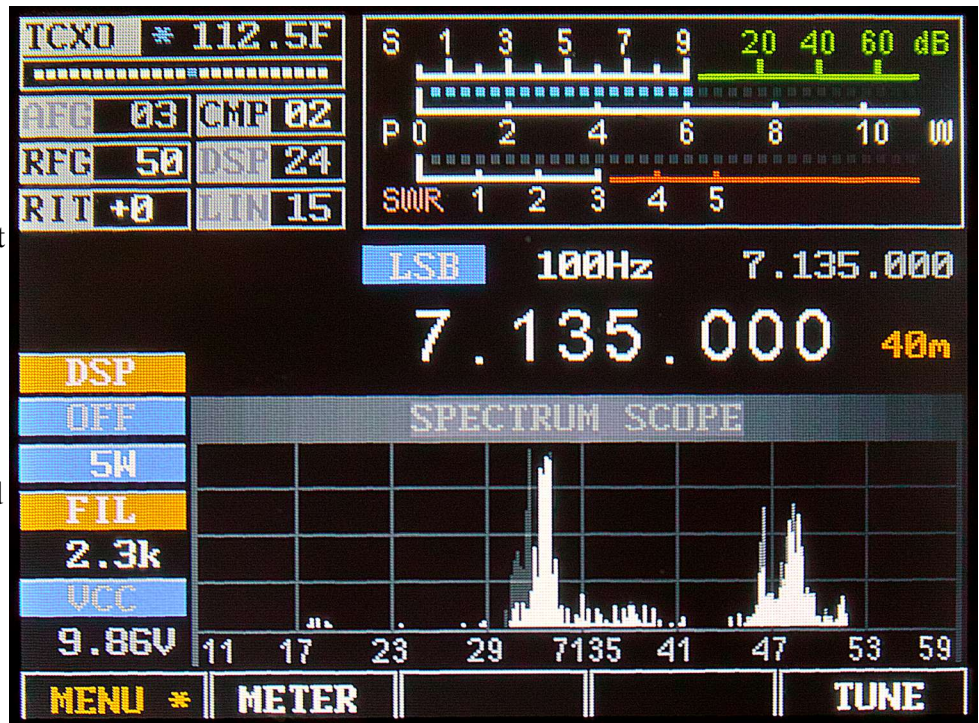

Figure 2: Main display of the mcHF transceiver. This depicts the spectrum display *without* “Frequency translation” - a recommended feature – activated.
- **Band Display:** To the right of the main display is an indicator of the amateur band in which the current frequency is tuned. If the current frequency is outside an amateur band it will display “Gen” (e.g. “General Coverage”). In **Figures 2 and 3** the band is set to 40 meters.
- **Mode Indicator:** Above the “10's” digit of the main frequency display is the current mode displayed on a blue background. In **Figures 2 and 3** the mode is set to LSB.
- **Step Size Indicator:** Above the center of the main frequency display, between the Mode Indicator and the “Sub” Frequency display is the setting of the current step size. In **Figures 2 and 3** the step size is set to 1 kHz. Optionally, a “marker” may be activated that puts a line under the digit indicating the currently-selected step size (see the menu item “**Step Size Marker**”).
- **TCXO Mode/Display:** In the top-left corner the “TCXO” box indicates whether the TCXO (Temperature-Compensated Xtal Oscillator) is active or not. The TCXO is used to read the temperature of the Si570 synthesizer (U8 on the RF board) - which should be thermally-bonded to the temperature sensor, U10, with a piece of copper or aluminium - and apply a compensation to it to keep on frequency. When it is active the bar graph below the temperature display will display white dots with a blue marker that moves about but when set to “Off”, the bar graph will be grayed out. If set to “Stop” the temperature display will be replaced with “STOPPED”. In **Figures 2 and 3** the TCXO is set to ON and displaying a temperature of 112.5F, but this may be set to display the temperature in Centigrade. If the temperature is very low (*below 0C or 32F*) this will display dashes and the temperature compensation will be disabled until the temperature-coupled synthesizer/sensor exceed this minimum threshold.
- **S-Meter:** This S-meter is nominally calibrated so that S-9 equals 50 microvolts into a 50 ohm load with each S-unit representing 6 dB. Practically speaking, the usable range of the S-meter ranges from about S-3 to something a bit higher than “40 over” which, if you were “run the numbers” about matches the dynamic range of the receiver! The bottom half of the S-Meter's graticule (“S0-S9”) is normally white in color, but if the receiver's A/D converter experiences an overload condition, it will turn red. On bands with strong signals it is normal for this to momentarily flash red as the internal gain control adjusts itself. In **Figures 2 and 3** the S-meter is displaying a signal level of S-9.
- **VCC:** Below this is a voltmeter that indicates the current supply voltage. Below 9.50 volts, the digits are displayed in red indicating that the voltage may be too low for the transceiver to operate properly. *Note that below 10.5 volts, attempting to obtain more than 3-5 watts of “clean”, distortion-free RF output from the transceiver may not be possible, particularly on the higher bands!* In **Figures 2 and 3** the voltmeter is indicating 9.86 volts.
- **FIL:** Below this is the current filter bandwidth setting, selectable by using button **G4**. In **Figures 2 and 3** the bandwidth is shown being set to 2.3 kHz.
- **Power Output Setting:** Just above the **FIL** icon is the currently-selected output power setting, selectable using button **G3**. In **Figures 2 and 3** the power is shown being set to 5 watts.